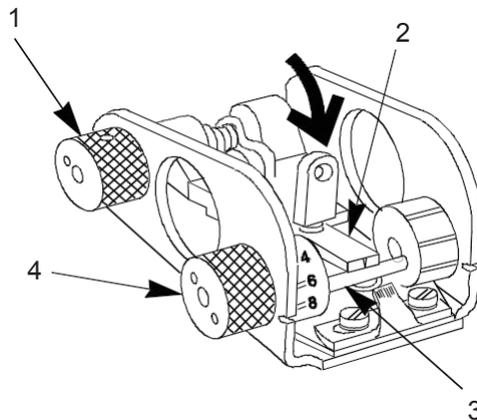
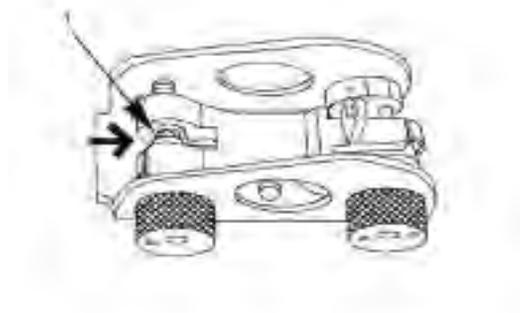

Figure 45. Elevation Knob Assembly, Center Sight Leaf Assembly.
Figure 46. Position Lock spring.
18. Rotate elevation knob assembly (Figure 45, Item 4), so that crossbar of elevator assembly (Figure 45, Item 3) is rearward. Center sight leaf assembly (Figure 45, Item 2) by turning windage knob (Figure 45, Item 1).
19. Rotate sight leaf assembly (Figure 45, Item 2) down on elevator assembly (Figure 45, Item 3) and push lock spring (Figure 46, Item 1) to the rear.